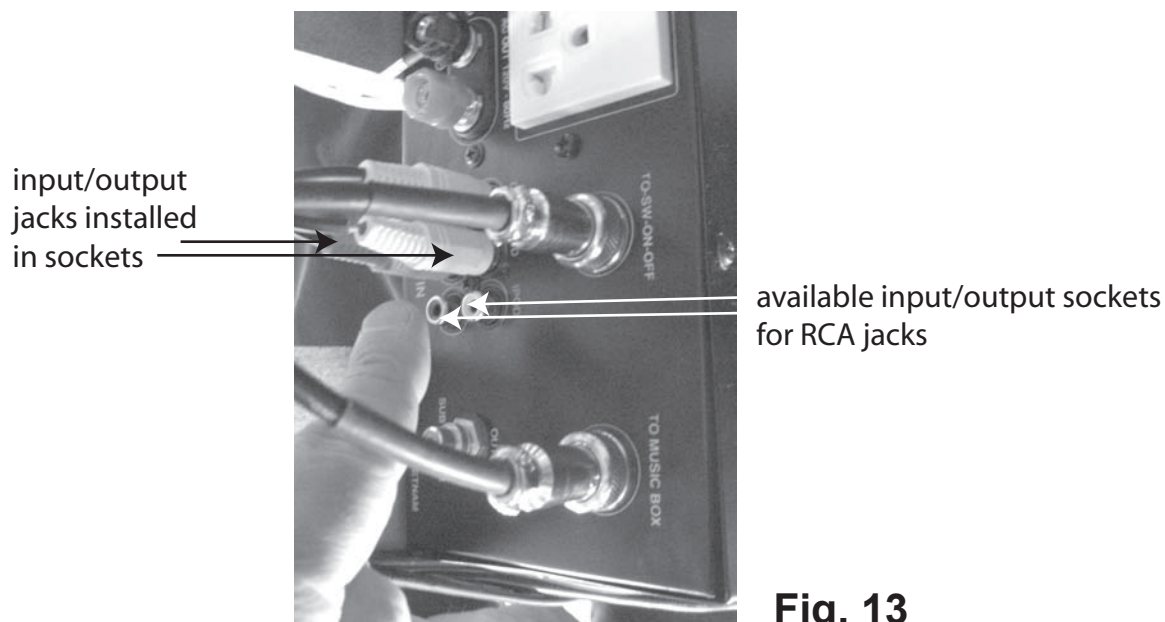

Fig. 13
- 13.** To attach the input/headphone jack from the Left Pedestal to the Amp, plug the jack set into the middle pairs of the input/output jack sockets. See Figure 13. Gather up the slack of the wires from the Left Pedestal and secure to the frame with one of the provided zip ties.